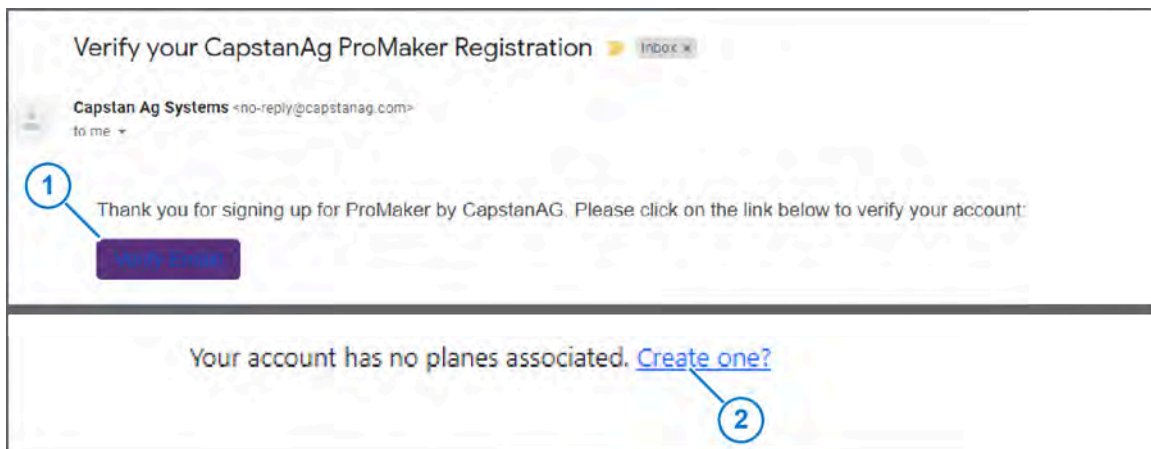

Figure 2: Verify Email
11. Click **Verify Email** (Figure 2, Item 1) verify your account information.
12. Select **Create one?** (Figure 2, Item 2) to make a plane profile.